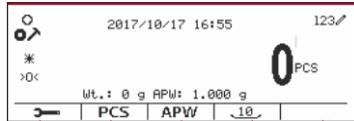

Figure 40
- Press the  button until the icon corresponding to Counting is displayed on the screen. The default (or last) Average Piece Weight (APW) is displayed. (See Figure 40)